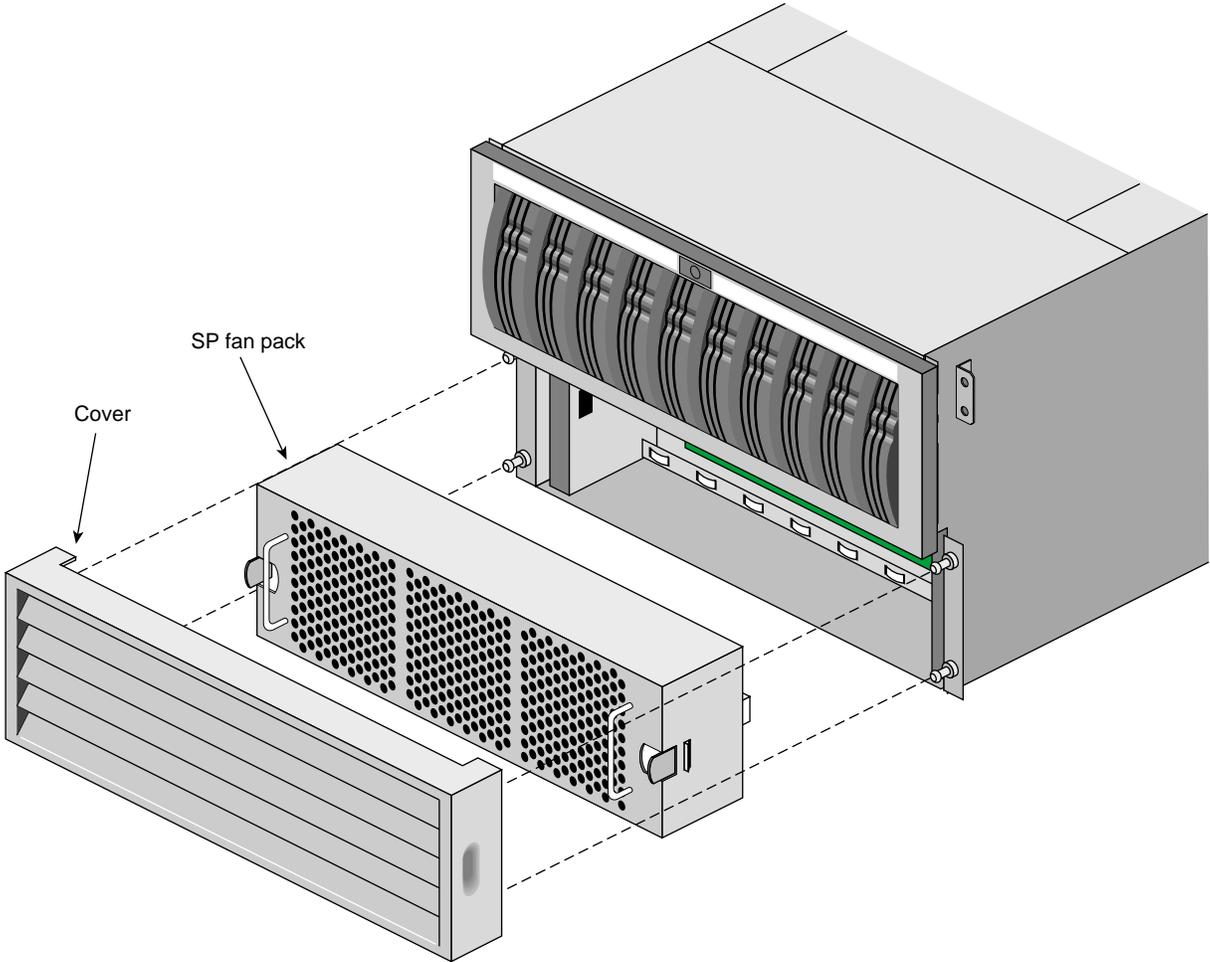

Figure 3-12 Storage Processor Fan Module
Figure 3-12 illustrates the fibre channel RAID storage processor (SP) fan module.